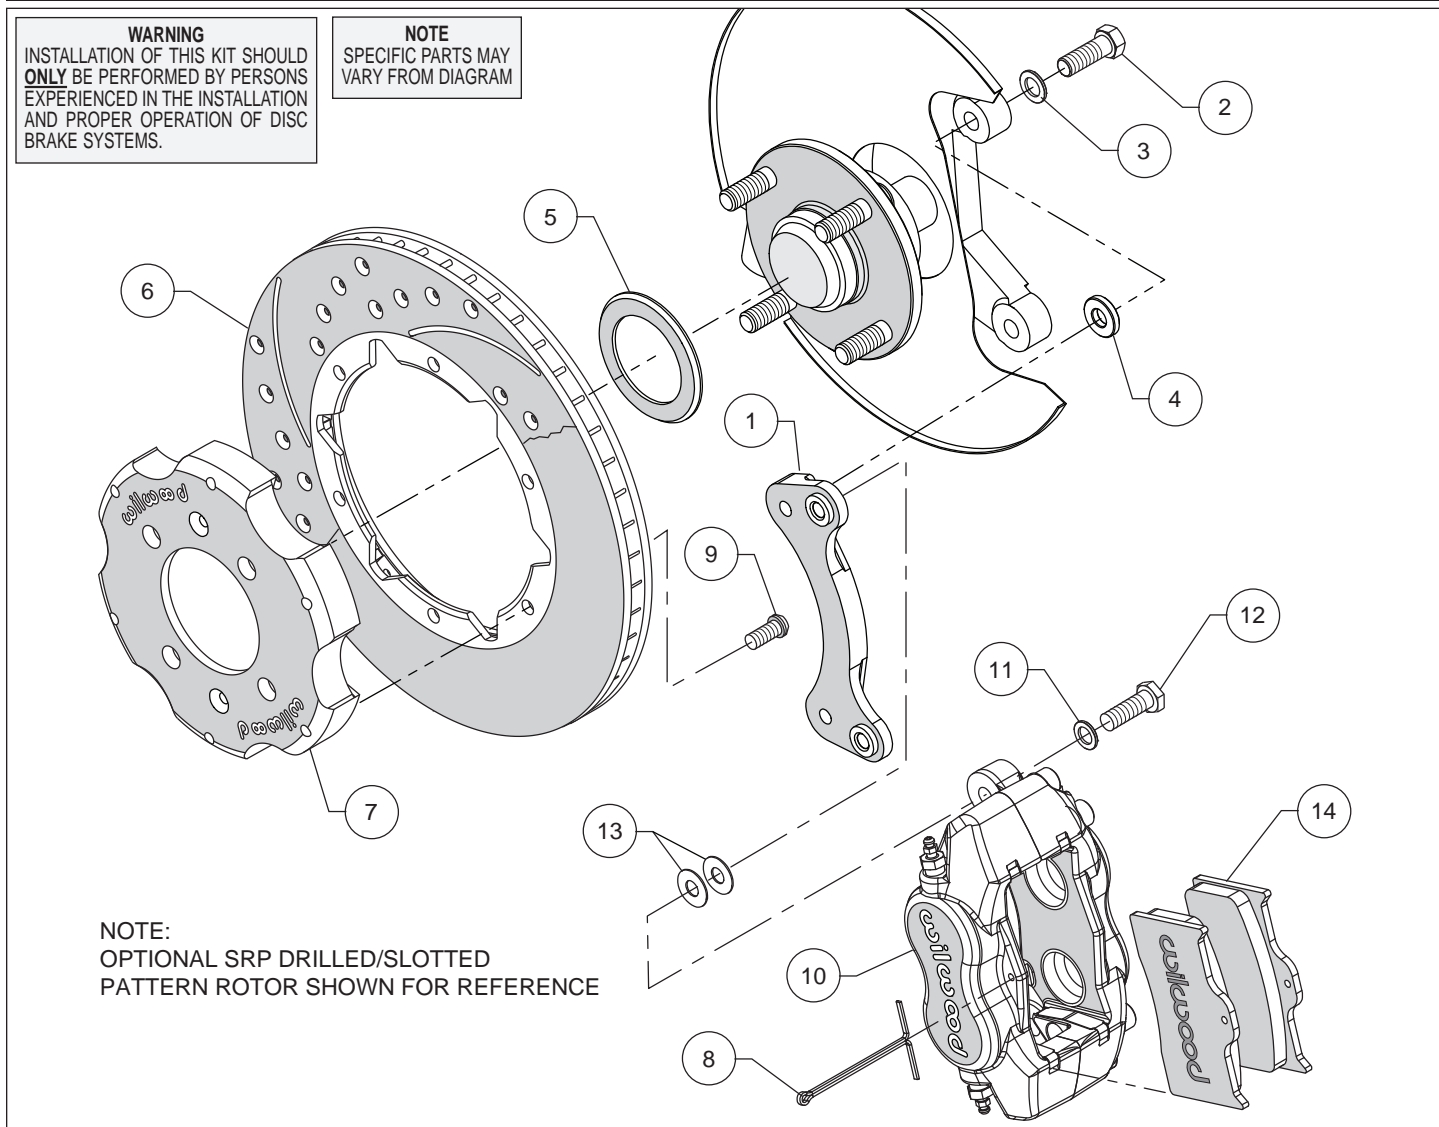

Figure 1. Typical Installation Configuration
Assembly Instructions (numbers in parenthesis refer to the parts list and Figure 1 on the preceding pages): **CAUTION:** All mounting bolts must fully engage clinch nuts. Be sure to check that all bolts are either flush or protruding through flanged side of clinch nut after shimming, Figure 3.
- Orient the caliper mount bracket (1) as shown in Figure 1 and Photo 1, and install using bolts (2) and washers (3). Place a spacer (4) on each bolt between the bracket and caliper mounting bosses, Figure 1 and Photo 2. Ensure that the flanged heads of the clinch nuts in the bracket are facing outboard, Photo 1. Temporarily tighten the mounting bolts. **NOTE:** The bracket must fit squarely against the mount bosses on the upright. Inspect for interference from casting irregularities, machining ridges, burrs, etc. Remove bolts one at a time, apply red *Loctite*[®] 271 to the threads and torque to 30 ft-lb.
- Orient the rotor (6) and the hat (7) as shown in Figure 1 and Photo 3. Attach rotor to hat using bolts (9). Using an alternating sequence, apply red *Loctite*[®] 271 to the threads, and torque to 25 ft-lbs.
- Slide the rotor registration adapter (5) onto the axle register on the axle hub with the smaller O.D. facing toward the rotor/hat (6/7), Photo 4. Slide the hat/rotor assembly onto the axle hub. **NOTE:** The hat must fit flush against the axle hub flange or excessive rotor run out may result. Install three lug nuts (finger tight) to keep the hat/rotor assembly in place while continuing with the installation.
- **NOTE:** Please reference the caution statement at the beginning of the assembly instructions. Mount the caliper (10) onto the caliper mounting bracket (1) using bolts (12) and washers (11), as shown in Figure 1. Initially place two .035" thick shims (13) on each bolt between the caliper and the bracket, Photo 5. Temporarily tighten the mounting bolts and view the rotor (6) through the top opening of the caliper. The rotor should be centered in the caliper, Photo 6. If not, adjust by adding or subtracting shims between the bracket and the caliper. Always use the same amount of shims on each of the two mounting bolts. **NOTE:** The end of each bolt must be flush with or slightly protruding from the head of the clinch nut, as shown in Figure 3. If necessary place spare shims between washer (11) and caliper mounting ear to achieve the proper clinch nut engagement. Once the caliper alignment and clinch nut engagement are correct, remove the bolts one at a time, apply red *Loctite*[®] 271 to bolt threads, and torque to 40 ft-lb.